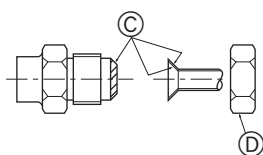

Fig. 5-6
Ⓐ (Fig. 5-6)
Ⓑ (Fig. 5-6)
5.5. Rohranschlüsse (Fig. 5-6)